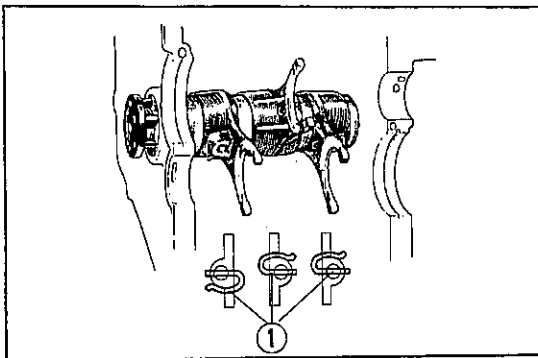

Fig. 128 ① Guide pin clips
- Place the counterbored section of the shift drum as shown in Fig. 128. Install the steel ball, the spring cap, and the spring. Lock with the shift drum screw. Bend the tab up on the guide screw lock washer to lock the guide screw.